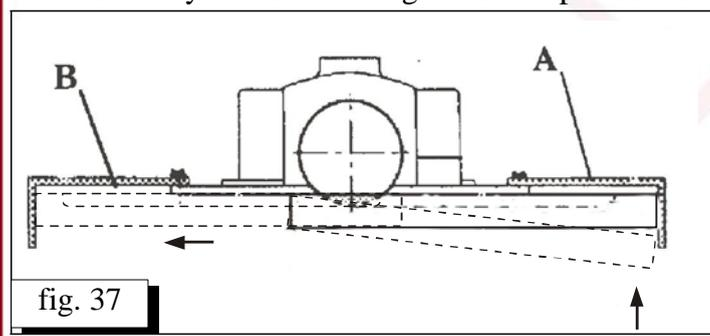

fig. 37
- ⌘ During the blind milling on the short details must use reflect protective supports fixed on the milling support /fig. 37/.